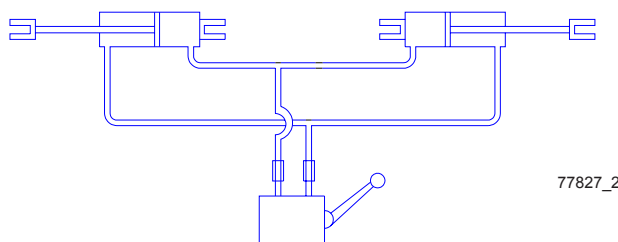

Fig. 4 Two Cylinder Wing Lift Circuit
Fig. 4 shows a simple two (2) cylinder circuit used to fold a pair of wings. This system is used on Wil-Rich cultivators with a single pair of folding cylinders.